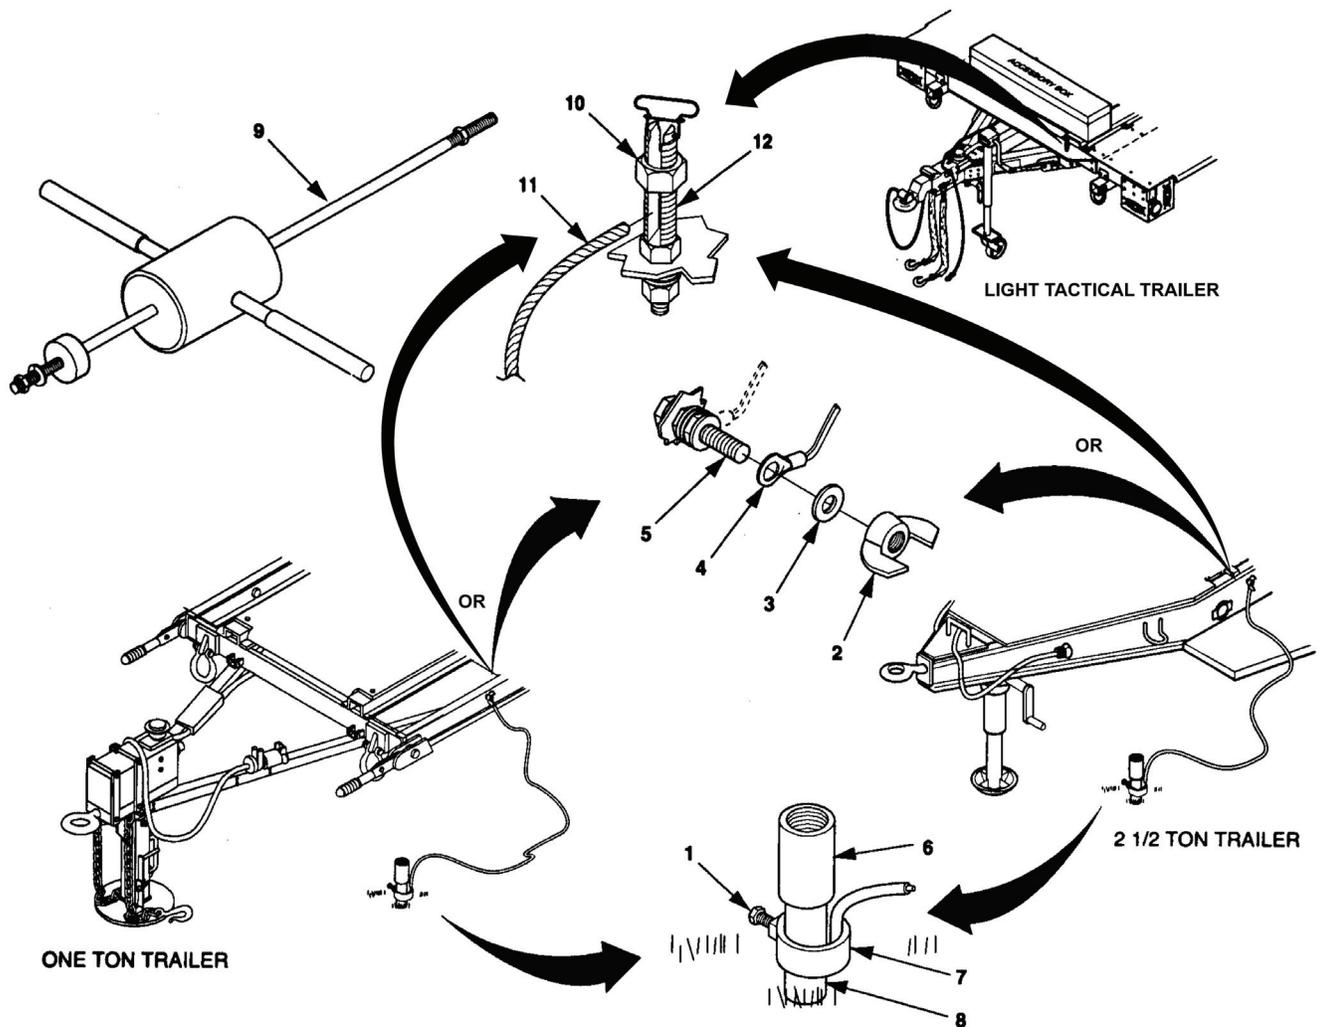

Figure 2-21. Removal of Ground Rod Assembly.
**2-7.3 Removal of Ground Rod Assembly.** Disconnect ground cable (11, figure 2-21) as follows:
- a. Loosen clamp screw (1) and remove ground cable (11).
- b. Loosen nut (10) from ground stud (12). Roll up ground cable (11) and store in accessory box.
- c. Tighten nut (10), loosened in step b, from ground stud (12).
- d. Remove coupler (6) and ground cable clamp (7) from ground rod section (8).
- e. Install coupler (6) on ground rod section (8).
- f. Refer to paragraph 2-3.3, step a, and figure 2-5. Assemble slide hammer (9, figure 2-21).
- g. Connect slide hammer end (9) to ground rod coupler (6).
- h. Using slide hammer (9), pull ground rod (8) out of the ground until the second coupler is exposed.
- i. Disconnect slide hammer (9) from top of ground rod coupler (6).
- l. Remove couplers (7) from each ground rod section (8).
- m. Clean ground rod sections (8) and couplers (6).
- n. Refer to paragraph 2-3.3, step i, and disassemble slide hammer (9).